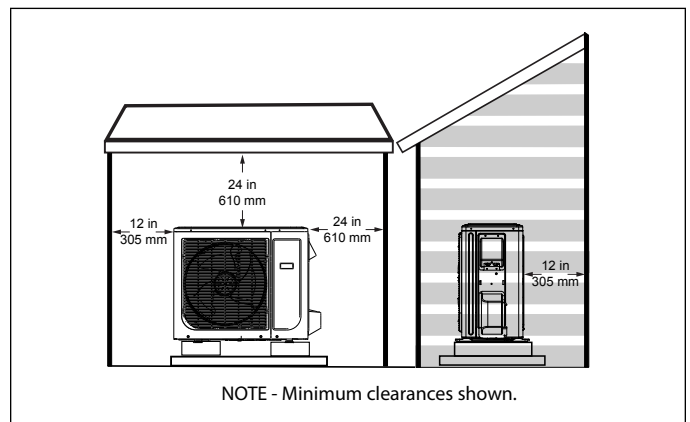

Figure 20. Dog House-Style Shelter
opy" or "Figure 20. Dog House-Style Shelter" on page 12
- Outdoor unit can be installed in a dog house style shelter as illustrated in "Figure 20. Dog House-Style Shelter"